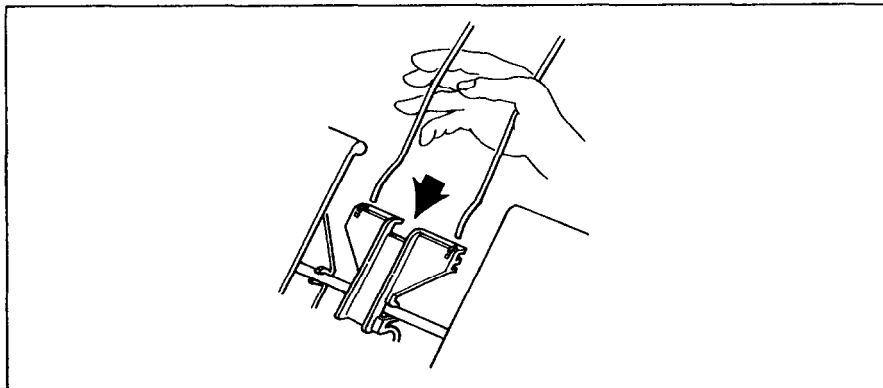

Figure 1-2. Insert the hopper attachment.
1. Hold the metal hopper attachment as shown in Figure 1-2, and insert it firmly into the fixing holes on the top part of the hopper support.